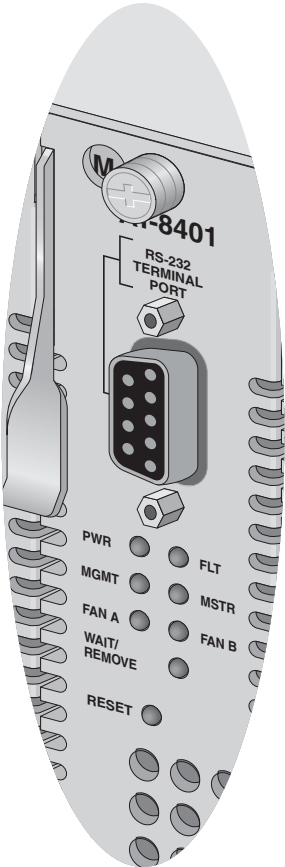

Figure 18 AT-8401 Management Card LEDs
3. Examine the LEDs on the AT-8401 management card. See Figure 18.